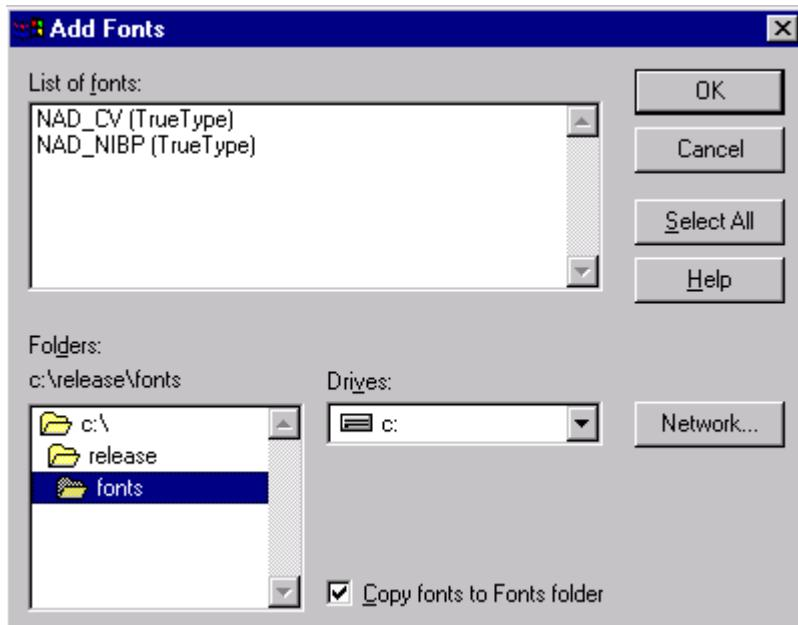

FIGURE 29. Add Fonts Dialog continued
- 8.54 While holding down the Shift button on the keyboard connected to the NM6000, select the fonts 'NAD_CV(TrueType)' and 'NAD_NIBP(TrueType)', then click OK. See Figure 29.